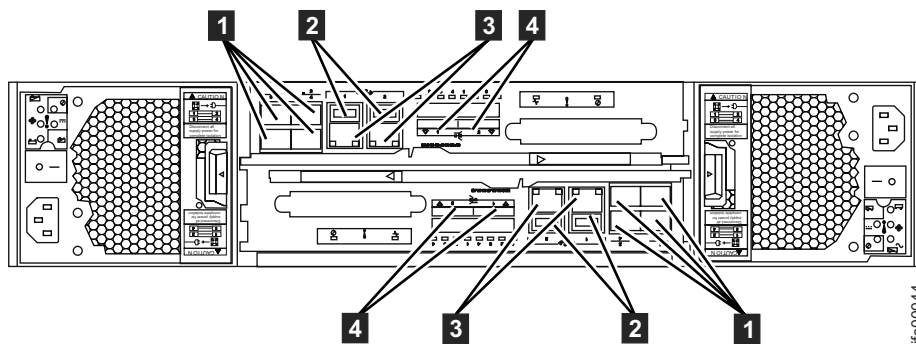
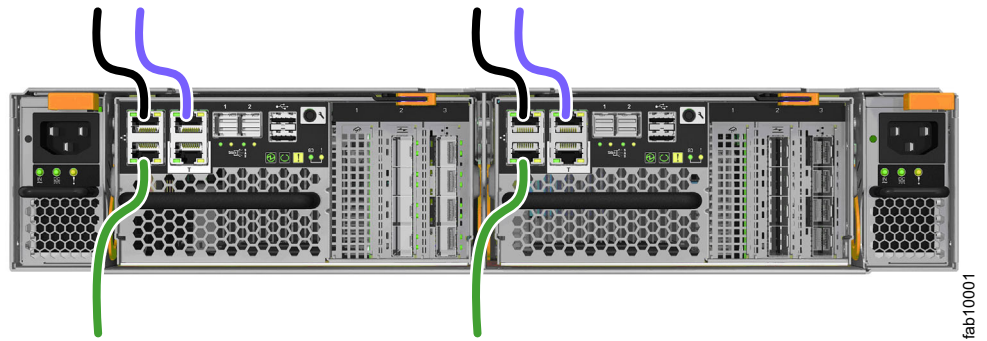
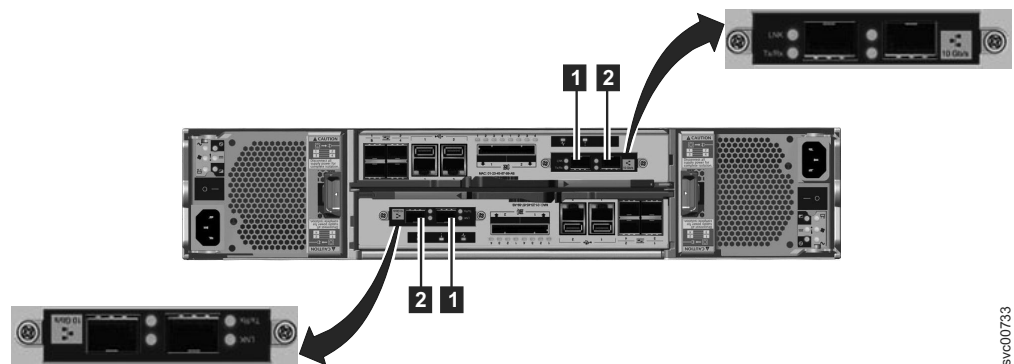
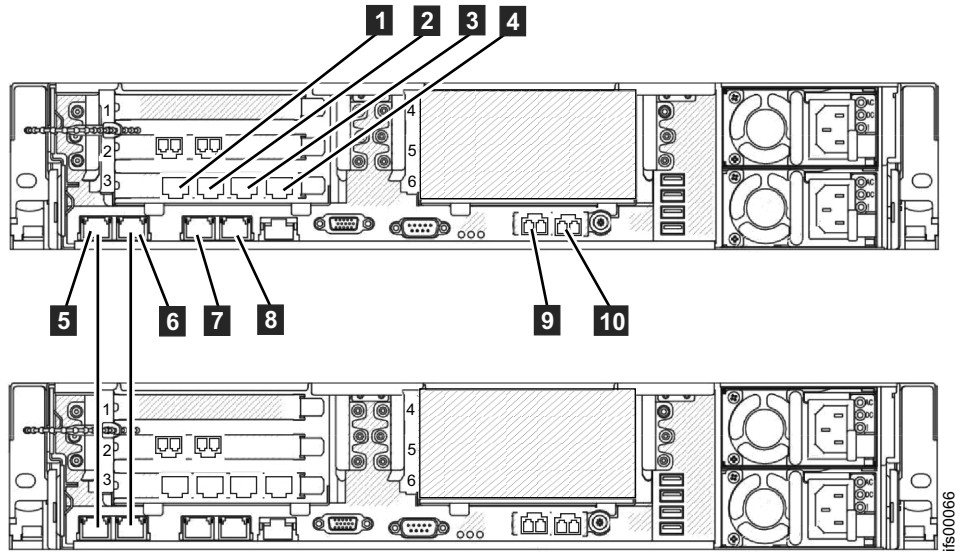

Figure 49. Control enclosure Ethernet network connections.
Figure 50. Storwize V7000 Gen2 control enclosure Ethernet network connections
Figure 51. 10 Gbps Ethernet ports on the rear of the Storwize V7000 enclosure
Figure 53. File module Ethernet connections.
This task assumes that your initial planning has determined where the Ethernet cables are to be located. The Storwize V7000 Unified control enclosure requires at least one and a maximum of two 1 Gbps Ethernet connections to each node canister. Refer to Figure 49, Figure 50 on page 59, and Figure 51 on page 59; also Table 16 on page 60 and Table 17 on page 61. For the file modules, the first two 1 Gbps Ethernet ports that are labeled **1** and **2** in Figure 53 on page 62 are used for internal communications between the file modules.
- Ethernet port **1** (upper left; black cable in Figure 50)
- Ethernet port **2** (upper right; blue cable in Figure 50)
- Ethernet port **3** (lower left; green cable in Figure 50)
If you encounter that situation, change the service IP addresses on the new nodes before connecting the Ethernet cables. For details, see Figure 53 on page 62 or see the *Storwize V7000 Unified Problem Determination Guide* PDF on the DVD for further information about setting service IP addresses using a USB flash drive.
- Connect an Ethernet cable from Ethernet port 1 on the first file module to the first Ethernet port 1 the second file module. Refer to Figure 53 on page 62 for port locations.
You have two 10 Gbps Fibre Ethernet ports available for host connections from each file module. Connect your network cables to the Ethernet ports in these slots as applicable. Refer to Figure 53 on page 62.